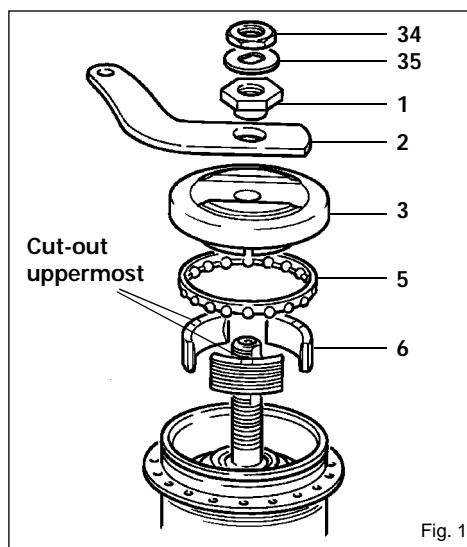

Fig. 1
3. (See Fig.1) Clamp right hand end of axle in a vice and unscrew the left hand cone locknut, spacing washer, and brake arm nut. Remove the brake arm, left hand cone and dust cap assembly, and brake shoe segments. Remove the brake actuator assembly by turning hub-shell clockwise. Remove hub from vice.
6. Clamp right hand end of axle in vice and fit brake actuator assembly to left hand end of axle, turning clockwise to ensure the internal screw threads engage with planet cage. Fit the 3 brake shoe segments such that the cut-outs are uppermost (see Fig. 1), the tag of the brake actuator drag spring lines up with one of the cut-outs, and the three segments are evenly spaced (see Fig. 4). If the brake
7. (See Fig. 1). Fit ball cage assembly, with balls facing down. Fit left hand cone, lining up the slot on the underside of the cone (See Fig. 5) with the brake actuator drag spring tag. Slide over the axle to engage tag, checking the cone is correctly seated by rotating slightly ensuring that it engages with the brake shoe segments (see Fig. 5). Fit brake arm, spigotted brake arm locknut, washer and locknut. Adjust hub as described in Part 2. Remove hub from vice.